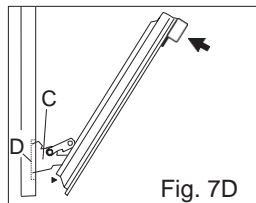

Fig. 7D
- 4) Using both hands, gently press the door inwards, allowing the door hinges "C" to disengage from the slots "D" (see fig. 7D) and pull the door outwards until released from the oven.